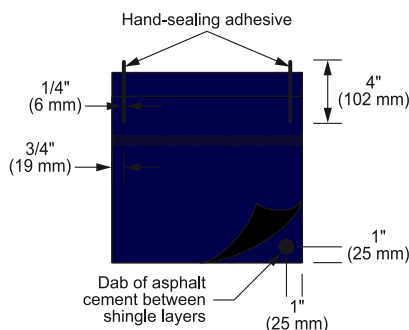

Figure 18-15: Hand seal caps as shown.
5. Start with one Shangle Ridge "starter shingle" with its lower 8" (203 mm) cut off, remove the protective tape (see Figure 18-15) from the sealant between the two layers and bend the shingle along the centerline of its longer dimension to form into place over the hip or ridge, beginning at the bottom of the hip or at either end of the ridge.